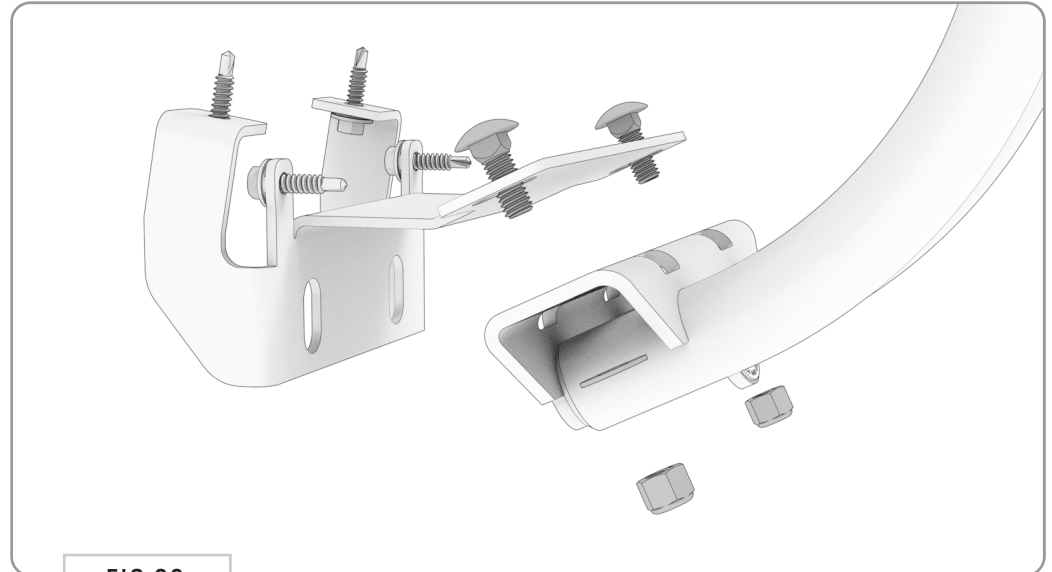

FIG 20
**5.3 Reattach to Hanger Bracket:** Loosely reattach your **Surf Pole** to the installed **Surf Pole Hanger Bracket** as shown (**FIG 20**) using the provided **3/8-16" Carriage Bolts, Flat Washers and Nylon Locknuts**.